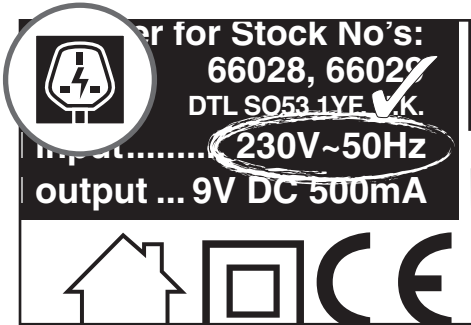

FIG.1
- ⑥ 230V AC mains charging adaptor.
- ⑦ 12V DC in-car adaptor charger.
8.1 POWER SUPPLY – FIG. 1